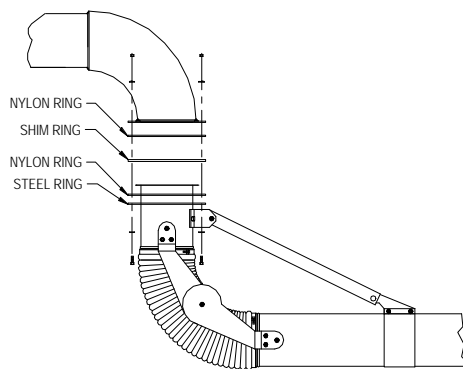

FIGURE 3
5. After the Boom Arm is satisfactorily mounted, attach the SCA 600/800 series arm to the Boom Arm as shown (Figure 3).